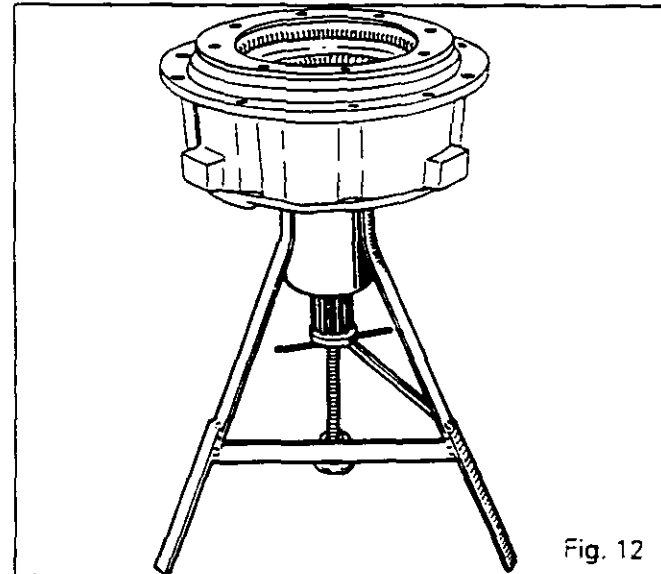
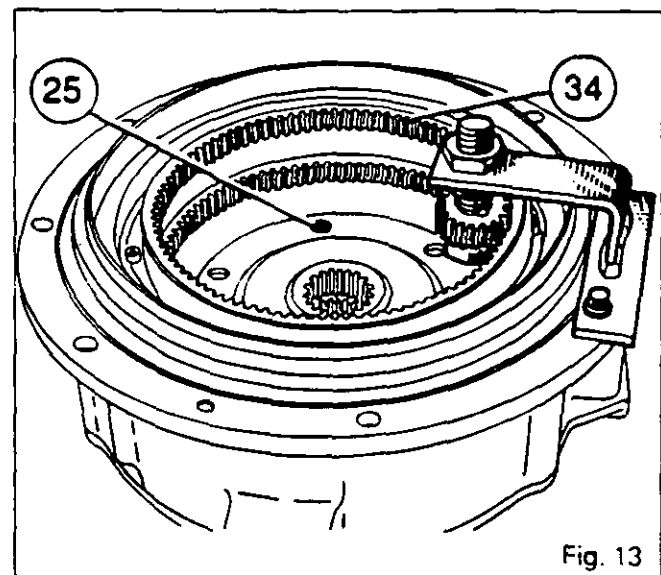
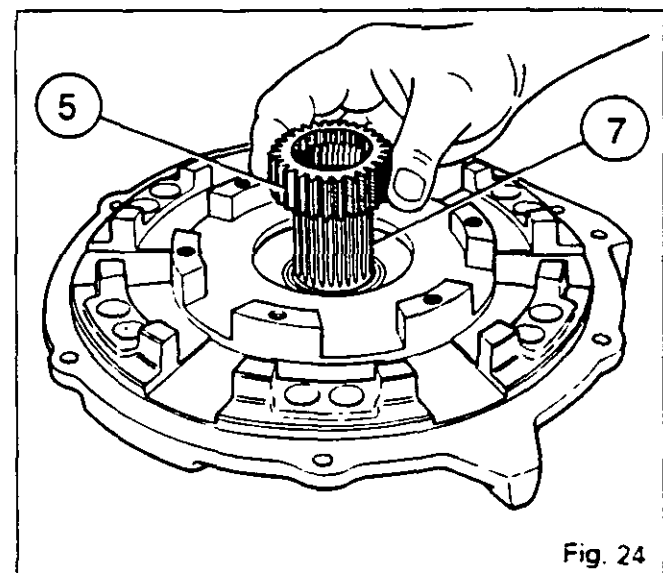

Fig. 12
Fig. 13
Fig. 24
9. Remove the primary shaft assembly (7), cover (13) and housing (21). Discard the O'rings (32), (67) and (68).
11. Turn the front cover/housing assembly over onto a suitable support (Fig.12).
12. Retain the thrust washer (70) and the shims (71).
13. Remove the circlip (69), take out the primary shaft (7) downwards, taking care not to damage :
14. Take the piston (37) out the housing (21). Remove the seals (35), (36) and discard them.
15. Turn the ring gear (31) so as to have access to the bolts (25).
16. Using tool 3376888 M1, immobilize the ring gear (34). Remove the bolts (25) (Fig.13).
17. Take out the ring gear assembly (34), its carrier (1), ring gear (31), bearing (27).
18. If necessary, remove the bolts (33), to separate the ring gear (34) from its carrier (1). Remove the bearing (27) from the ring gear (31).
19. Unscrew the bolts (18) gradually and alternately, remove the housing (21). Discard the seal (19).
20. If necessary, take the piston (22) out of the housing, discard the seals (24) and (26).
21. Remove the discs (3), the driven plates (2) and the splined hub (5).
22. Remove the springs (20), the discs (15) separated by the brake plate (16) and the pressure plate (17).
23. Take out the Belleville spring /4\, the clutch housing (14), and its the thrust washer (10).
24. If necessary, take the seals /8\ and /9\ out (tractor 3000), the seal /77\ (tractor 3100) and the needle bearing (6). Discard the parts. Remove screws (12), separate the support hub (11) from the cover (13) (hit the back of the support, using a plastic hammer).
70. On the primary shaft (7) fit the splined hub (5) with its internal splines pointing upwards (Fig. 24). Fit the discs (3) and the driven plates (2).
71. Fit the two other brake discs (15), separated by the pressure plate (17).
72. Reinstall the springs (20). Fit the O-rings (19) and (73).
73. Check that the blanking plugs (23) and (29) are in place. Make sure that the supply holes to the front and rear piston chambers in the spacer housing (21) are not obstructed.
74. Lubricate O-rings (24) and (26) and fit them respectively in the front piston (22) and in the spacer housing (21).
76. Screw two diametrically opposed guide studs into the spacer housing (21) and position it on the front cover (13), making sure that the spacer housing lubrication hole meets up with the corresponding passage in the cover.
77. Remove the guide studs. Fit and tighten the bolts (18) to a torque of 29 - 37 Nm. Connect a pressure gauge fitted with a shut-off valve to the front piston orifice. Connect a 0,3 bar compressed air line to the circuit. Close the shut-off valve and check that no pressure drop occurs within 1 minute.
78. If it was removed, reinstall the bearing (27) on the primary ring gear (31). Place the secondary ring gear (34) on the secondary ring gear carrier (1). Coat the bolts (33) with Loctite 241, fit and tighten to a torque of 12 - 16 Nm.
79. Screw two guide studs into the clutch housing (14). Fit the secondary ring gear (34), carrier (1), primary ring gear (31) and bearing (27) assembly onto the primary shaft (7). Remove the guide studs. Fit the bolts (25). Immobilize the secondary ring gear (34) as Fig. 13. Coat the bolts (25) with Loctite 241 and tighten to a torque of 29 - 37 Nm.
80. Fit the circlip (69).
81. Lubricate, then fit seals (35) and (36) on the rear piston (37).